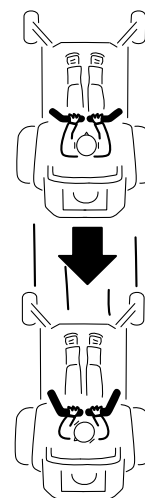

Figure 18
2. To go backward, slowly pull the motion control levers rearward (Figure 18).
To go straight, apply equal pressure to both motion control levers (Figure 18).